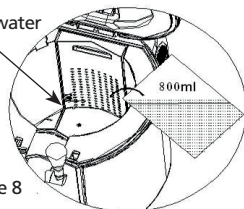

Figure 8
5. Fill the cooling cavity with 800ml water or add water to the max mark (Figure 8) (It can work without water, but with compromised performance)